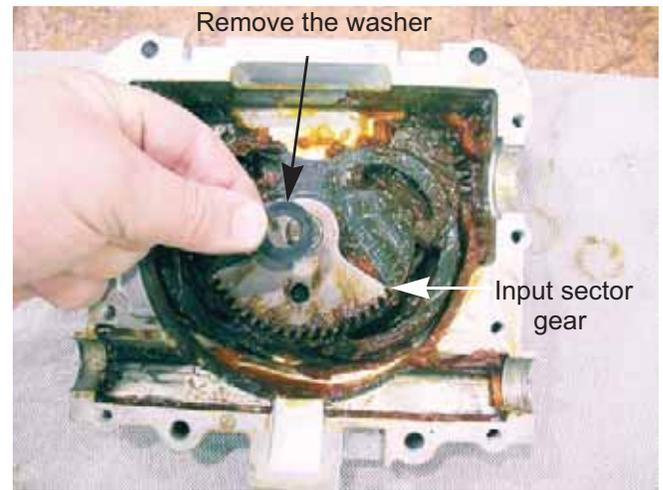

Figure 6A.39
12. Remove the input sector gear. See Figure 6A.40.